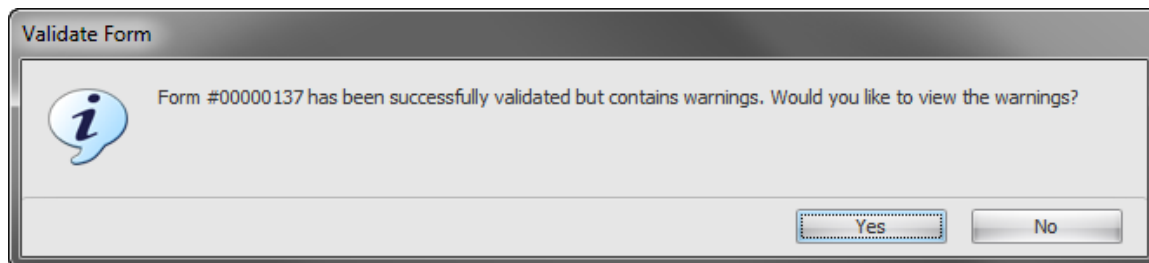

Figure 55. Validate Form Dialog Box
3. If the form contains warnings, the **Validate Form** dialog box opens, as shown in Figure 55. Click **Yes** to see the warnings or **No** to complete validation.